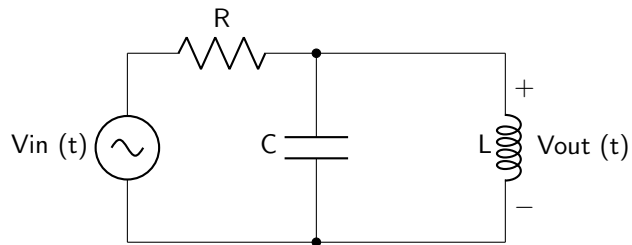

Figure 11.3: Filter circuit diagram.
3. What type of filter is shown in figure 11.3? How do you know?